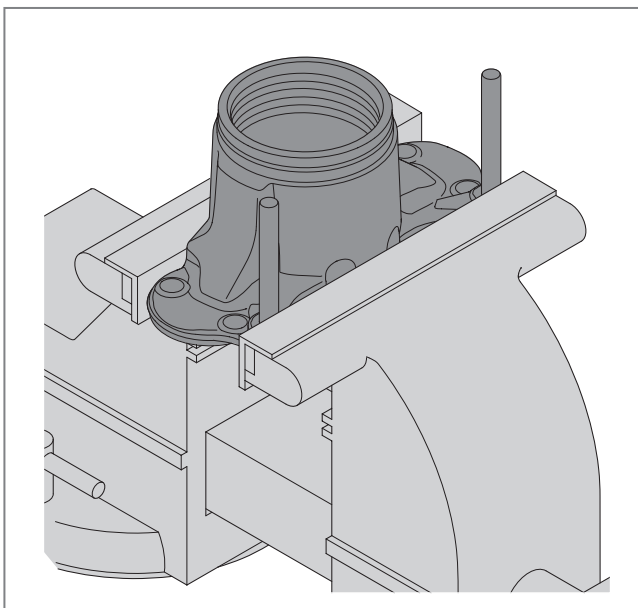

Fig. 50 - Clamping device for the thrust plate
- Fasten the thrust plate securely in a vice with soft jaws, see ► Fig. 50. Do not over tighten or damage the thrust plate whilst clamping!